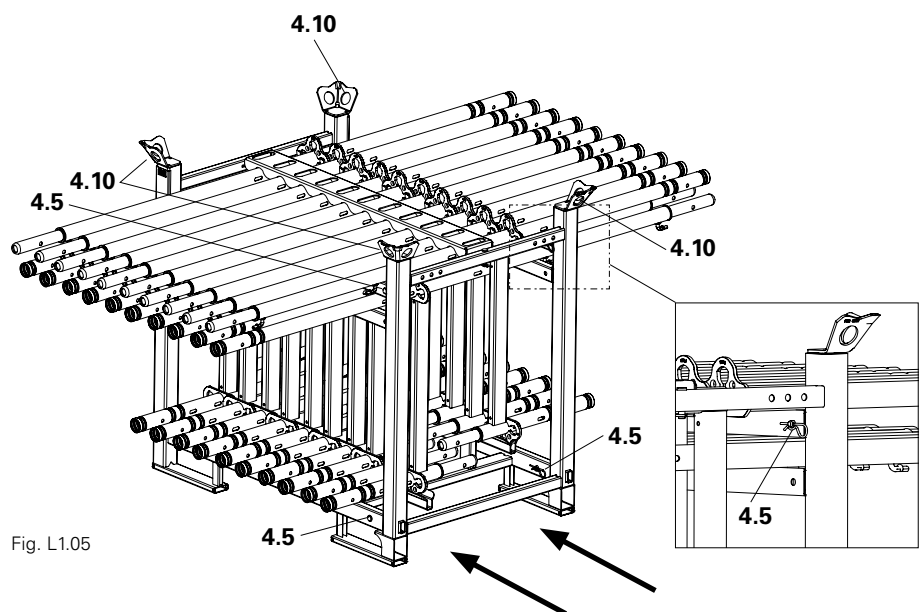

Fig. L1.05
5. Position the pallet frame and mount it with 2 bolts (4.5) and cotter pins on the top cantilevers, as well as with 2 bolts (4.5) and cotter pins on the pallet frame. (Fig. L1.05)
The pallet can be lifted by the forklift truck or pallet lifting trolley using the short sides. (Fig. L1.05)